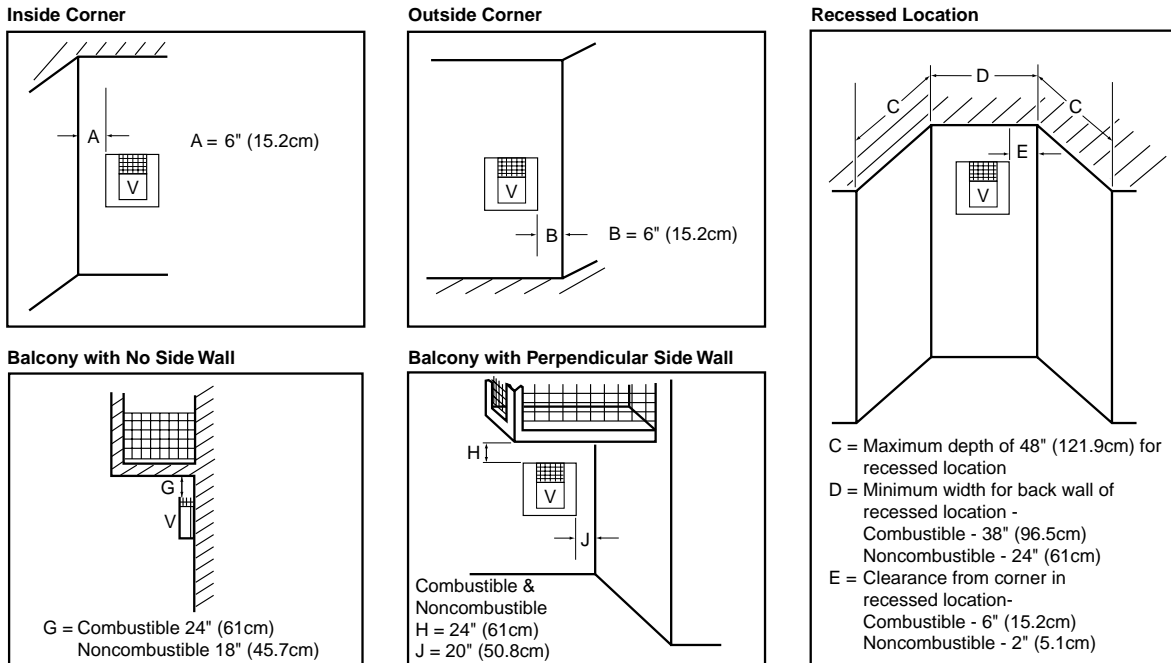
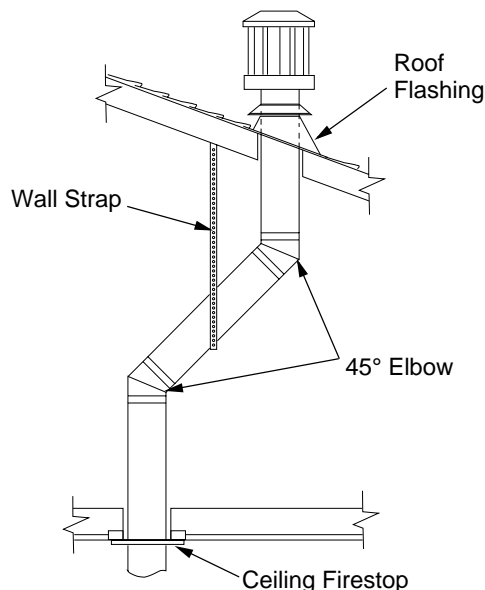

Figure 13 - Minimum Clearances for Vent Terminations
Figure 24 - Offset with Wall Strap and 45° Elbows
When locating vent termination, it is important to observe the minimum clearances shown in Figure 13, page 8. You will avoid extra framing by positioning your fireplace against an already existing framing member. The sides of the fireplace may be positioned directly against combustible walls.
1. Determine the route your vertical venting will take. If ceiling joists, roof rafters, or other framing will obstruct the venting system, consider an offset (see Figure 24, page 13) to avoid cutting loadbearing members. **Note:** Pay special attention to these installation instructions for required clearances (air space) to combustibles when passing through ceilings, walls, roofs, enclosures, attic rafters, etc. Do not pack air spaces with insulation. Also note maximum vertical rise of the venting system and any maximum horizontal offset limitations. Offsets must fall within the parameters shown in Figure 13 on page 8.
Note: If an offset is needed to avoid obstructions, you must support the vent pipe every 3 feet (91.4cm). Use wall straps for this purpose (see Figure 24). Whenever possible, use 45° elbows instead of 90° elbows. The 45° elbow offers less restriction to the flow of the flue gases and intake air.
5. Place the flashing over the pipe section(s) extending through the roof. Secure the base of the flashing to the roof and framing with roofing nails. Be sure roofing material overlaps the top edge of the flashing as shown in Figure 24. There must be a 1" (2.5cm) clearance from the vent pipe to combustible materials.